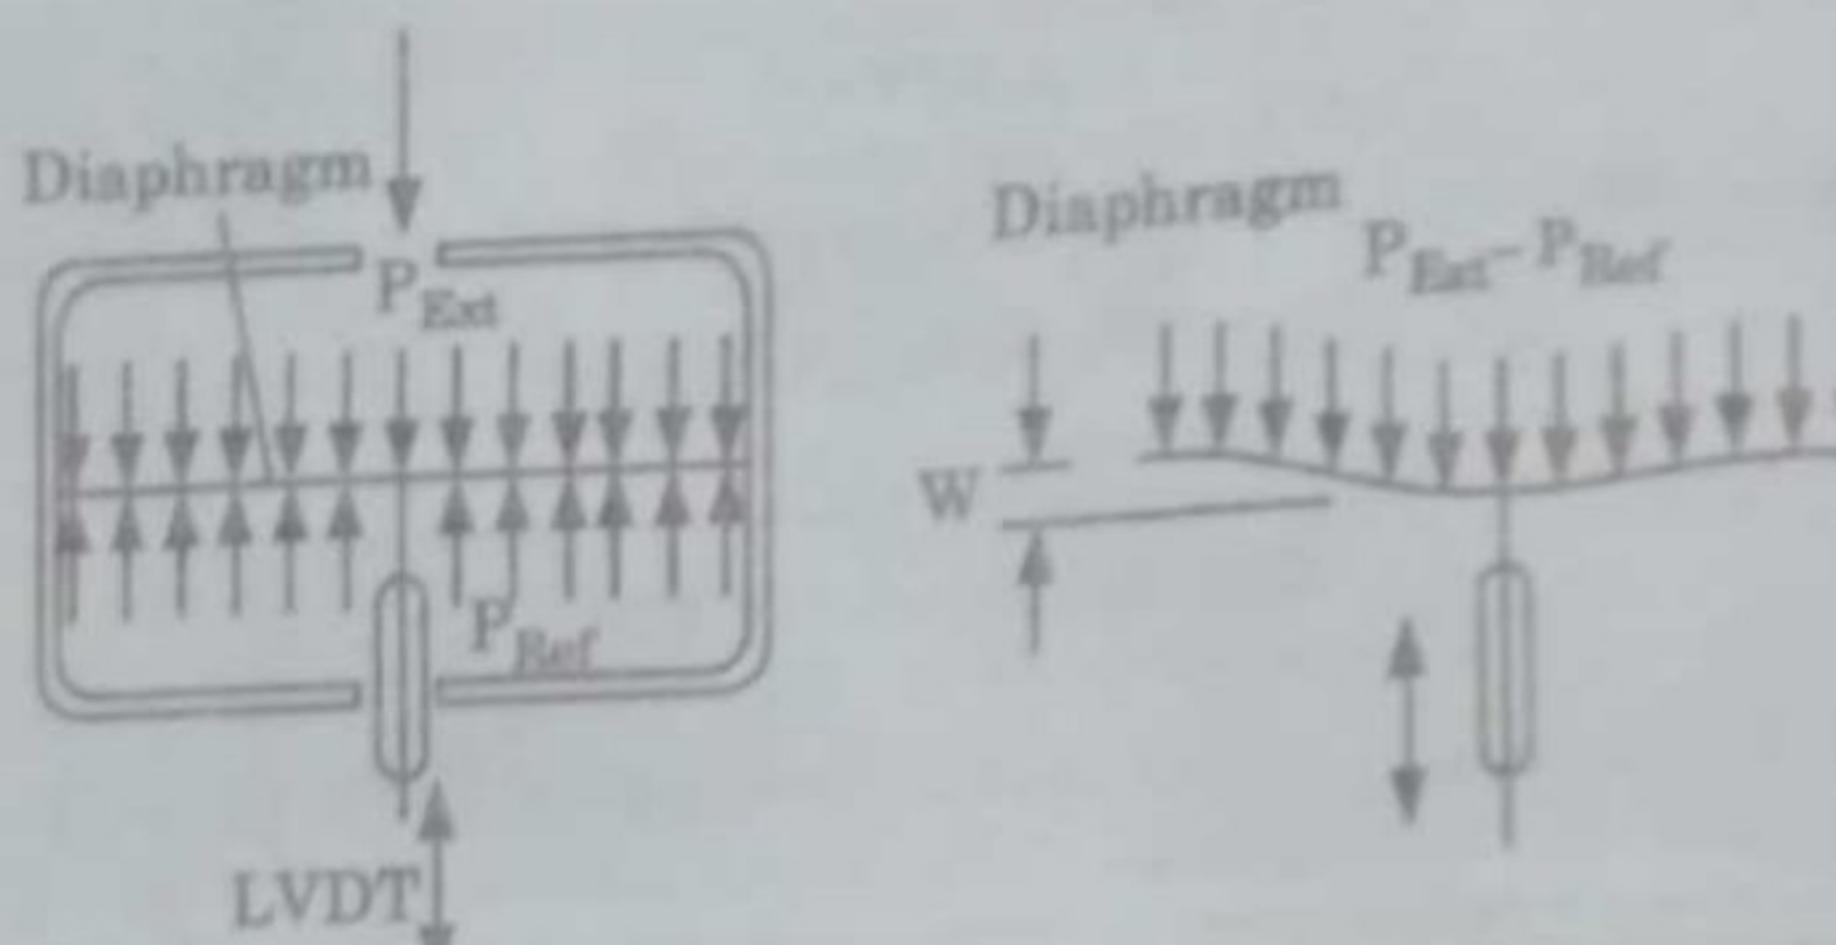

Fig. 1.24.2. LVDT-based diaphragm pressure gauge.
4. The membrane of the diaphragm is connected to LVDT as shown in Fig. 1.24.2.